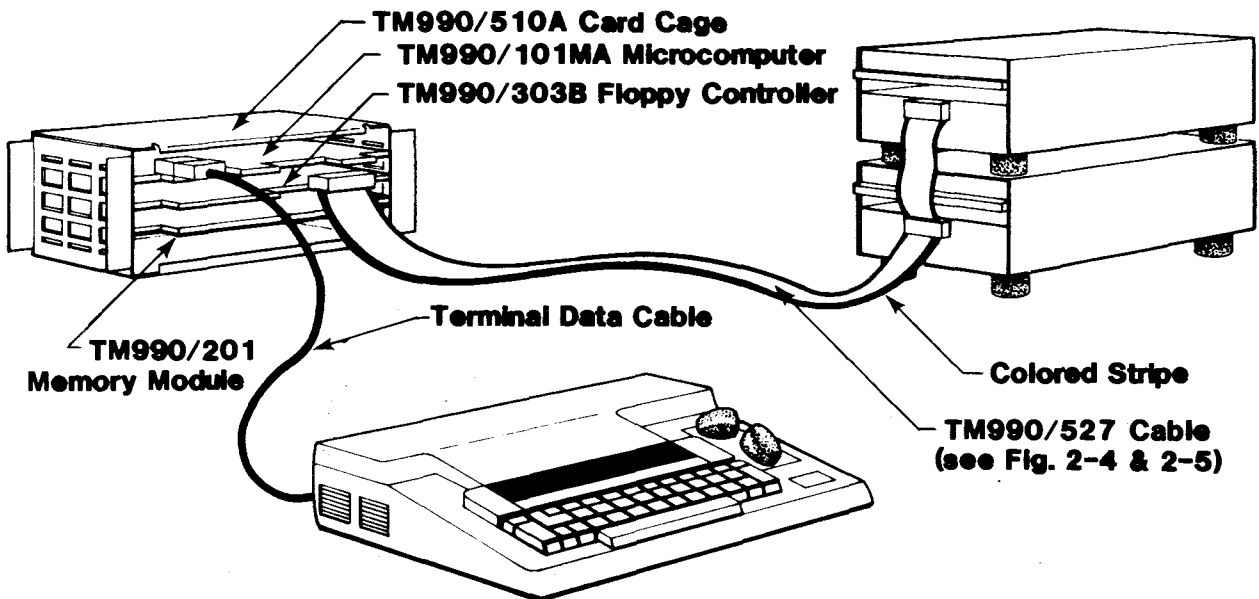
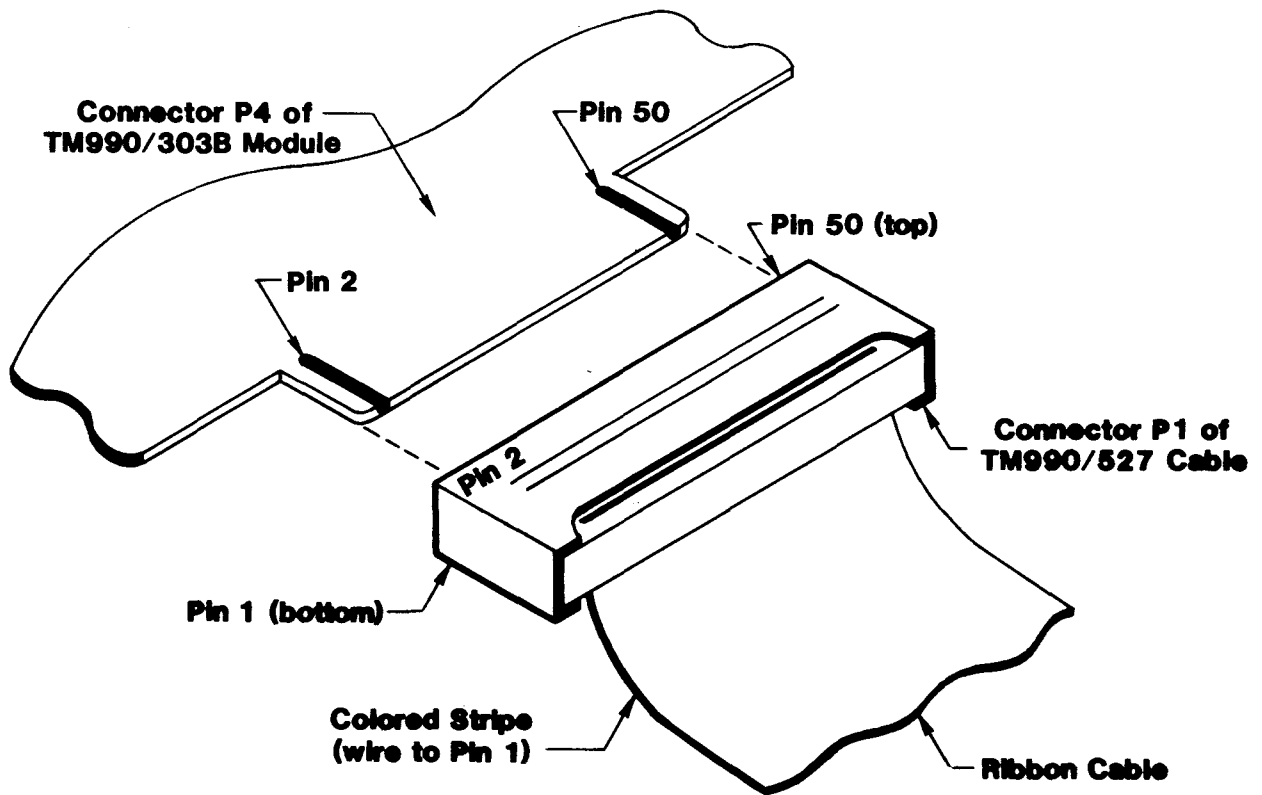
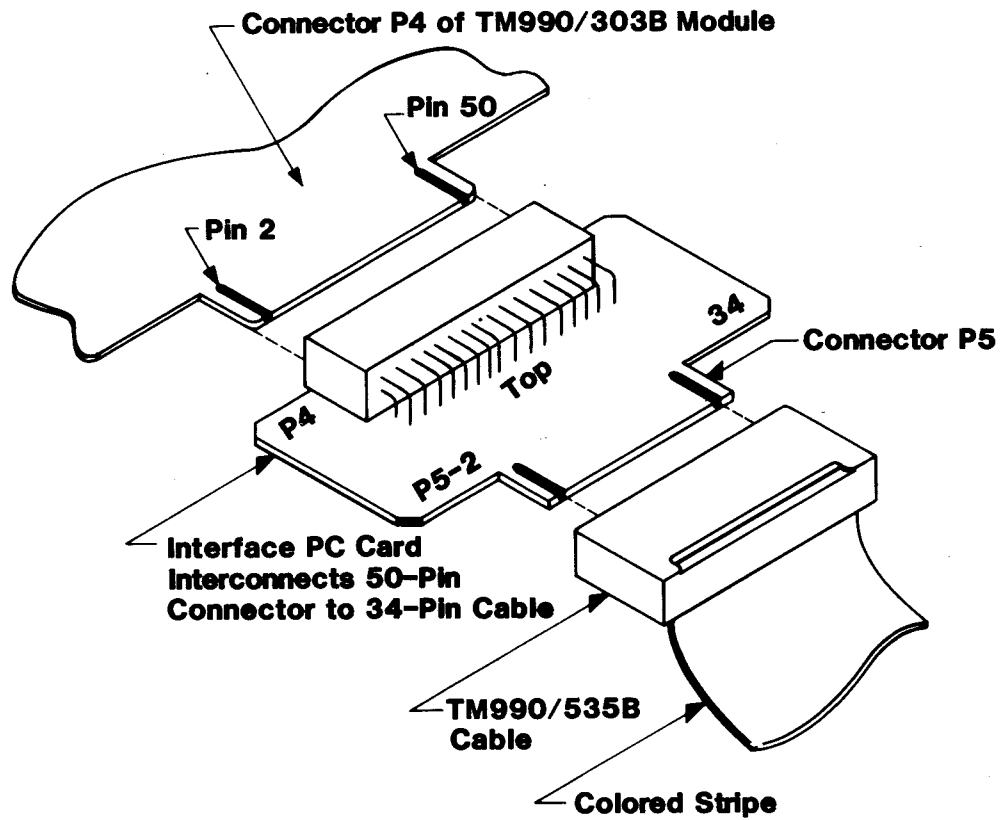

FIGURE 2-3. SYSTEM INTERCONNECTIONS USING TM 990/527 CABLE (STANDARD SIZE)
FIGURE 2-4. CONNECTING TM 990/527 DISK DRIVE CABLE TO P4 OF TM 990/303B MODULE
FIGURE 2-6. CONNECTING TM 990/535B DISK DRIVE CABLE TO P4 OF TM 990/303B MODULE
Figure 2-3 shows a typical system configuration using a TM 990/527 cable which connects one or two eight-inch drives to the controller module. Detail connections using this cable are shown in Figures 2-4 and 2-5. To connect an eight-inch disk drive system:
- The TM 990/527 cable has three connectors on it. The end with the two connectors closest together attaches to the two disk drives. The single connector at the other end goes to the controller module, and is attached with the colored stripe to the left of connector P4 as shown in Figure 2-4. As seen in the figure, pin 2 and the colored stripe are at the left of the connector when properly installed. The colored stripe encloses the wire to pin 1.
Figures 2-6 and 2-7 show similar cabling for five-inch mini drives using the TM 990/535B cable and its interface card. The card acts as the interface between the 50-pin connector P4 on the TM 990/303B module and the 34-wire cable.
- Cable attachment to standard drive (section 2.7, Figures 2-4, 2-5), or cable attachment to mini drive (section 2.7, Figures 2-6, 2-7),
Cable attachments should be as shown in Figures 2-3 to 2-7. When system installation has been checked and verified, apply power.